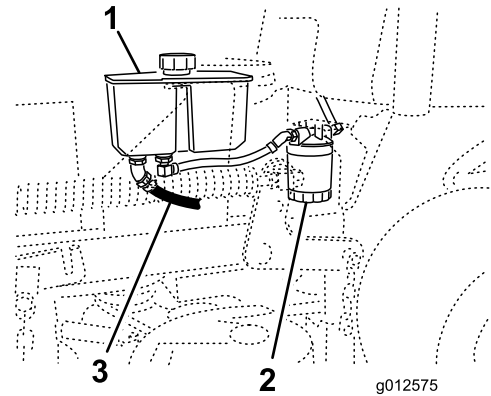

Figure 74
4. Locate the front hydraulic hose under the hydraulic tank and place drain pan under the tank (Figure 74).